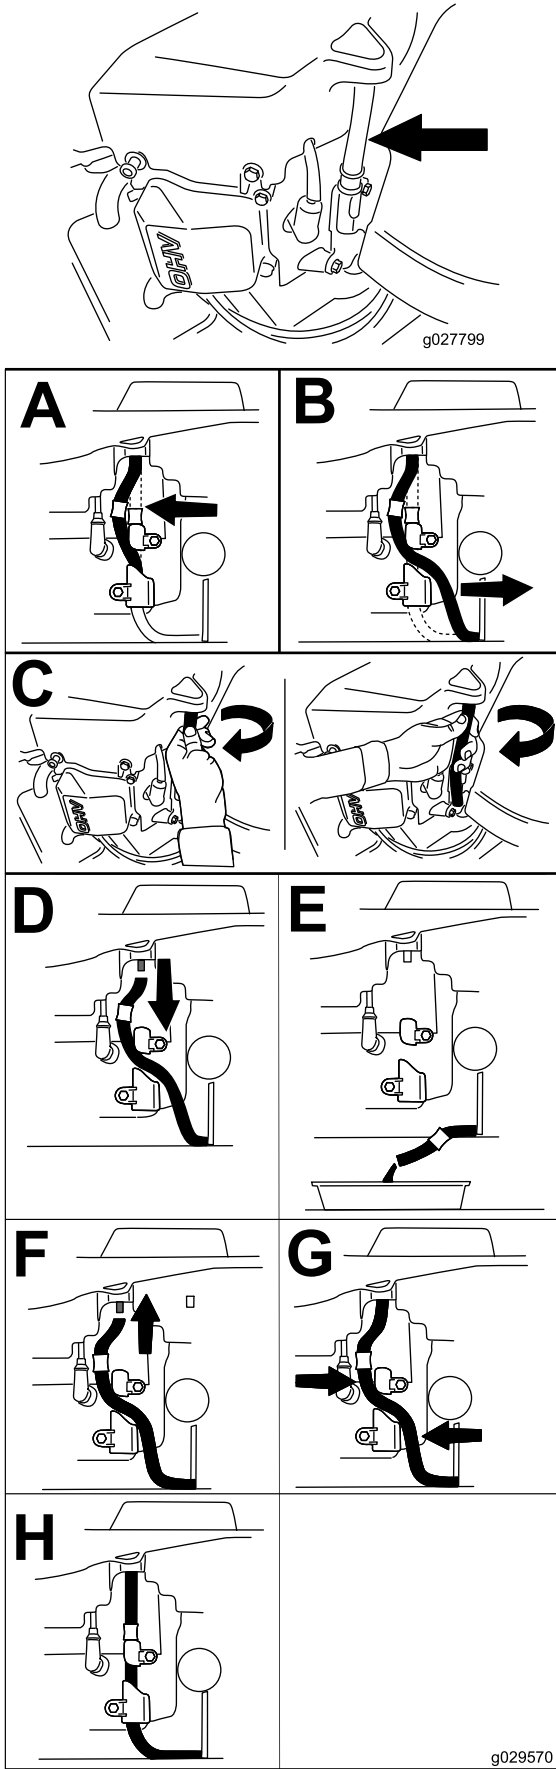

Figure 32
4. Drain the engine oil (Figure 32).